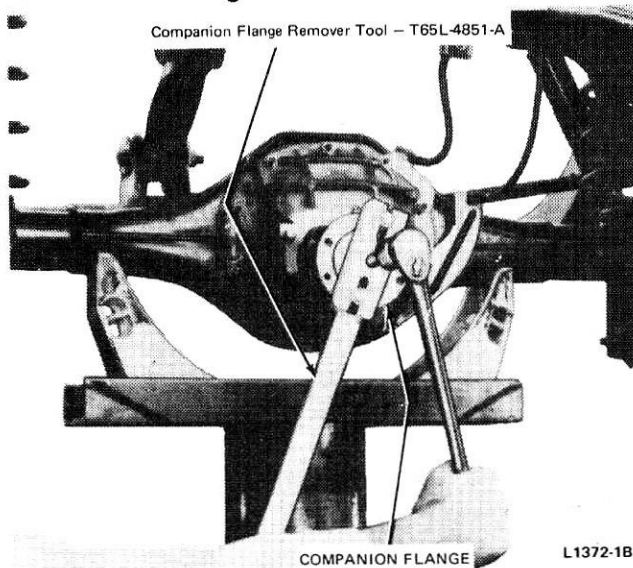

FIG. 16 Removing Companion Flange and Rotor
5. Install Tool T65L-4851-A on the drive pinion flange and remove the flange and rotor assembly from the rear axle drive pinion (Fig. 16).